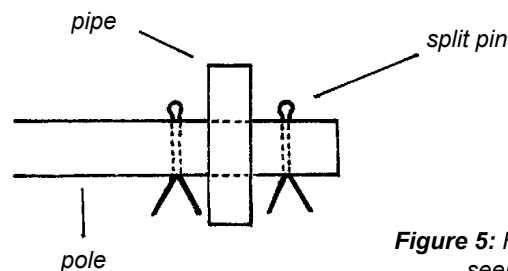
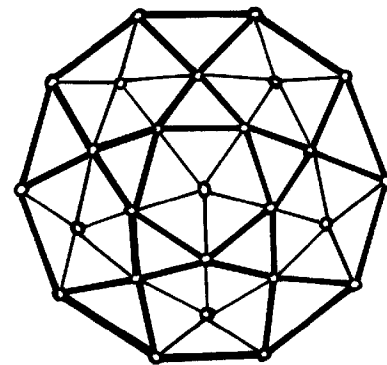

Figure 5: Fixing for joints seen from the side
Figure 6: Geodesic dome from above. Six pentagon design: the thick lines represent long poles, thin lines represent short poles.
Step 3. Reassemble the pentagon and fasten the joints by inserting the split pins (see fig. 5). Build from the middle outwards following the pattern shown in fig. 6.